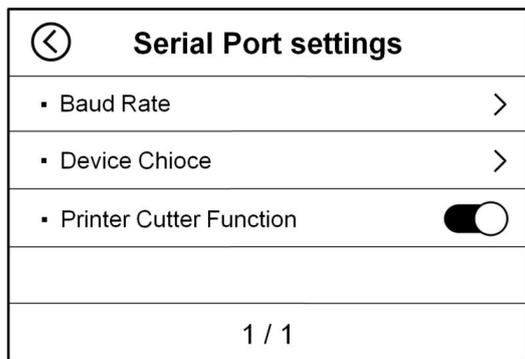
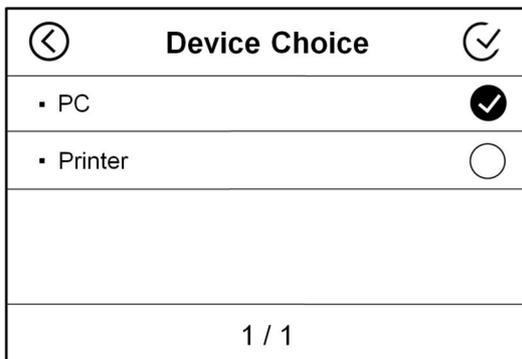

Figure 77
Figure 78
2) Touch the **“Serial Port”** key to enter the baud rate setting interface, as shown in Figure 77 below. First touch the second item **“Device Choice”** to enter the peripheral selection interface. In this interface, type **“☑”** after the first item **“PC”**, and then touch the **“☑”** key in the upper right corner to save, and it will automatically transfer to the interface shown in Figure 78.